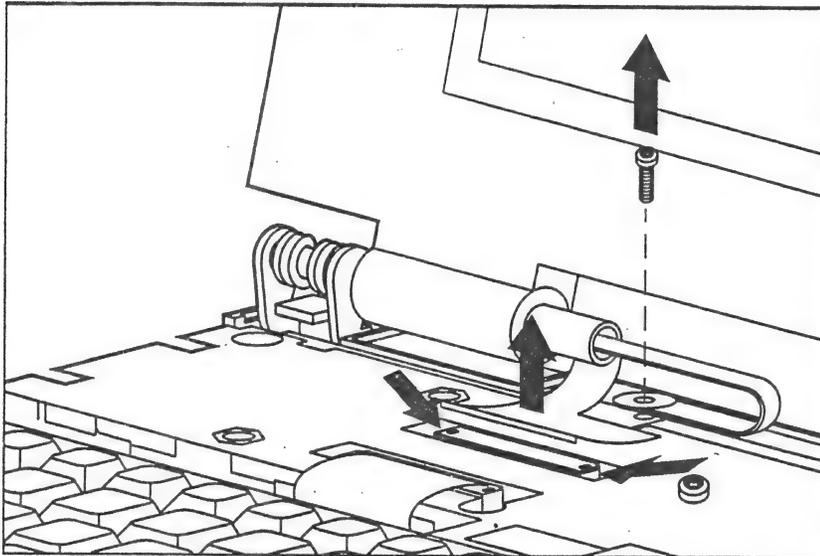

Figure 2-28. Removing the Cable Ground Screw and Unlocking the ZIF Connector
2. Using a Torx T-8, remove the cable ground screw securing the display cable and ground wire (Figure 2-28).
3. Using the case utility tool, carefully lift up on the ZIF connector to release the cable; then disconnect the display cable from the system module (Figure 2-28).